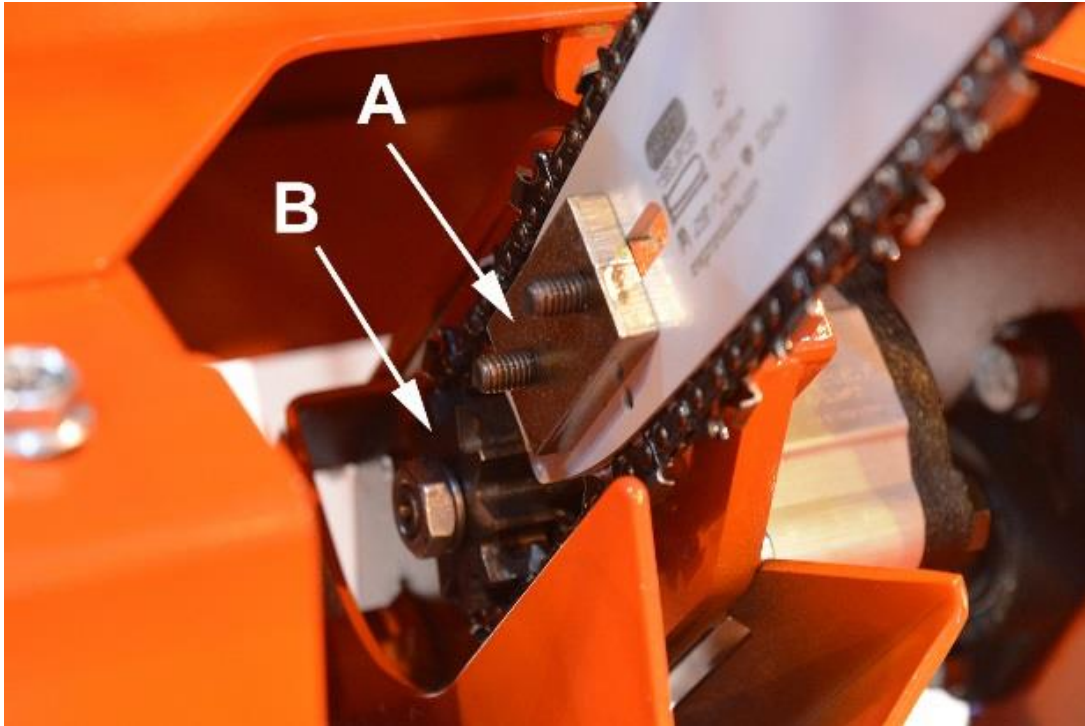

Figure 27.
2. Remove the saw bar bolts (2 pcs) and remove fastening plate A (Figure 27)
4. Place the new bar against gear wheel B (Figure 27), twist it into the groove and loosely attach the saw bar bolts and fastening plate A.